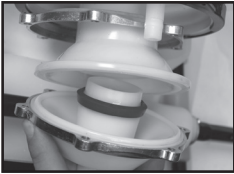

Figure 3
3) Pull the pump housing halves apart and inspect piston collar/ diaphragm for wear. Replace as needed (Figure 3).
6) Re-assemble the two pump halves (fig.3). Re-tighten all pump housing bolts. Re-assemble hose and lever bolts.